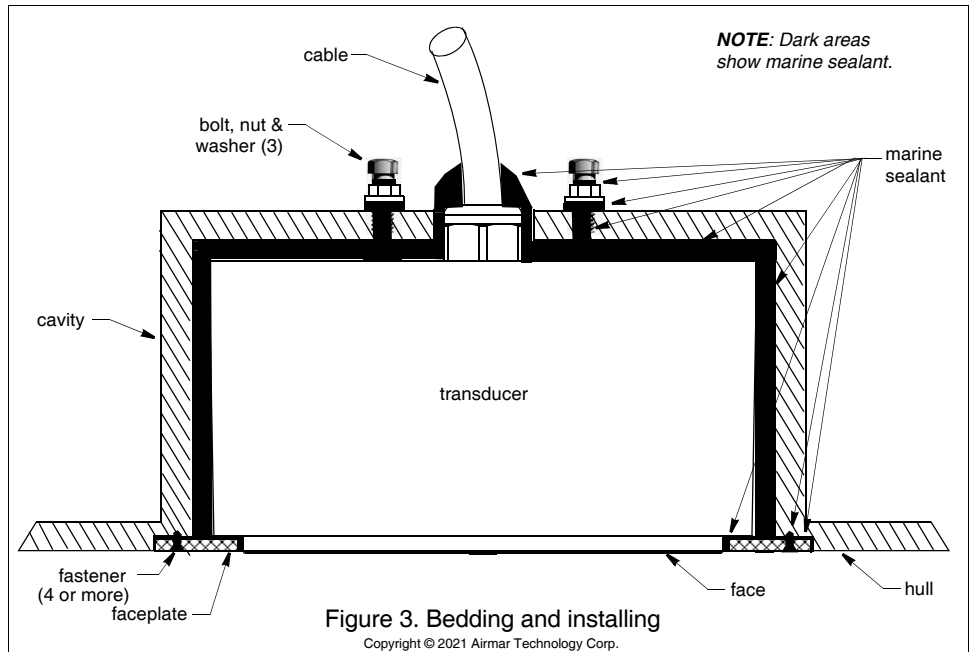

Figure 3. Bedding and installing
2. Apply marine sealant to the following surfaces to seal the hull and hold the transducer firmly in place (Figure 3):